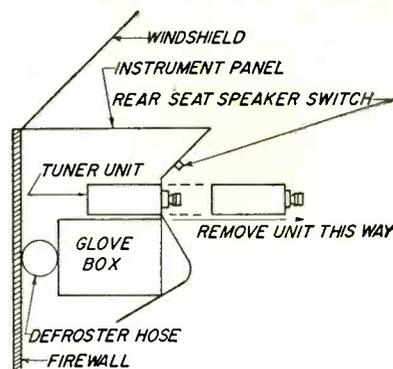

Fig. 5—Tuner unit is removed by bringing it forward and out.
10. Bring unit forward and out though the front (see Fig. 5).